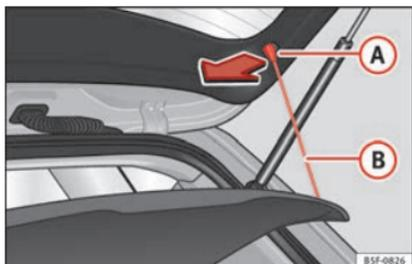

Fig. 160 In the luggage compartment: removing and installing the rear shelf.
- Detach the cord loops »» **Fig. 160 (B)** from their hooks **(A)**.
- Hook the loops »» **Fig. 160 (B)** to the rear lid »» ⚠.